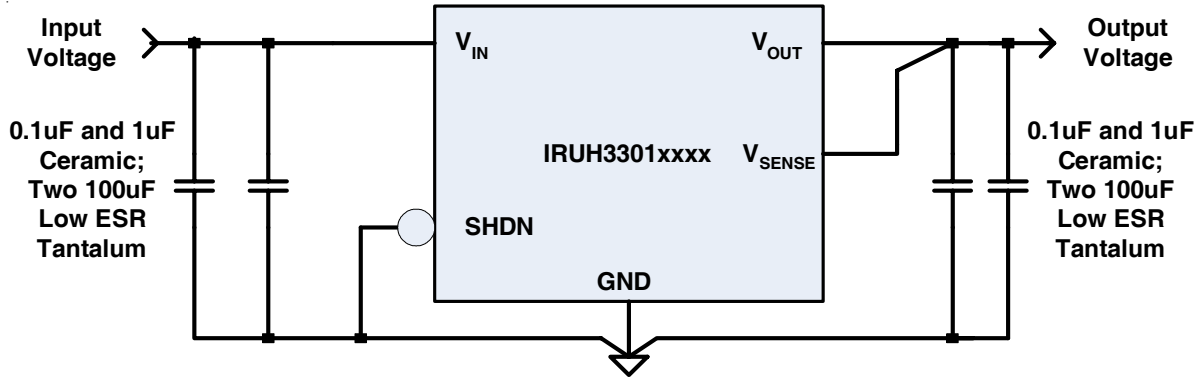

Fig. 1. Typical Regulator Circuit; Note the SHDN Pin is hardwired in the "ON" position.
- ① Connected as shown in Fig.1 and measured at the junction of V_{OUT} and V_{SENSE} Pins.
② Under normal closed-loop operation. Guaranteed by design. Not tested in production.